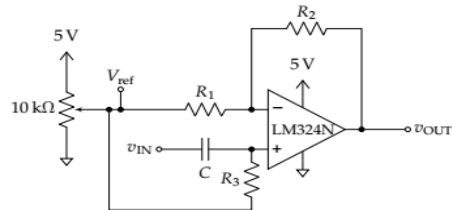

Figure 13.12: Single Supply High Pass Filter
5. EC: In order to bias the opamp correctly, we need to set the DC value of the inputs to a value inside the common mode input range. Construct the revised circuit in figure 13.12. Set the potentiometer so that  $V_{\text{ref}}$  is in the center of the common mode input range of the op amp.